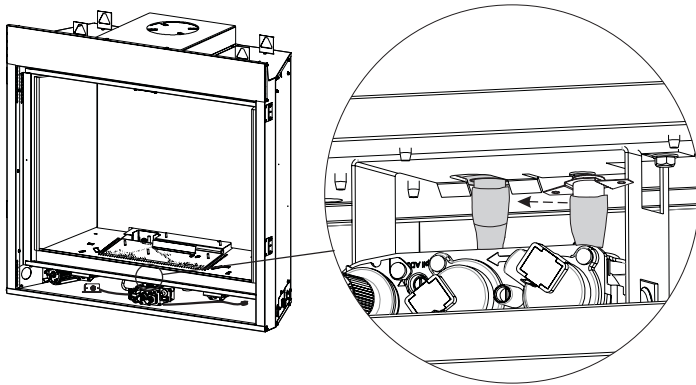

Figure 15
13. Install thermo disc by snapping into valve bracket burner assembly. **See Figure 15.**